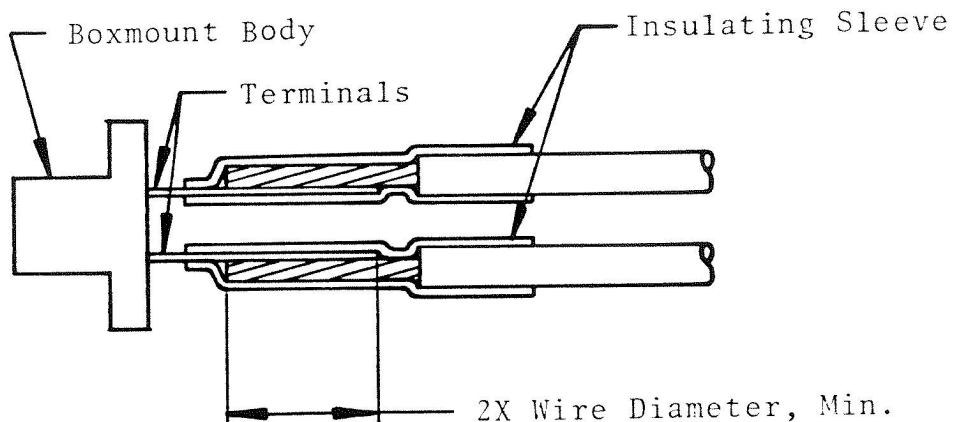

FIGURE 1
6.1 Wire Positioning Inspection (Figure 1)